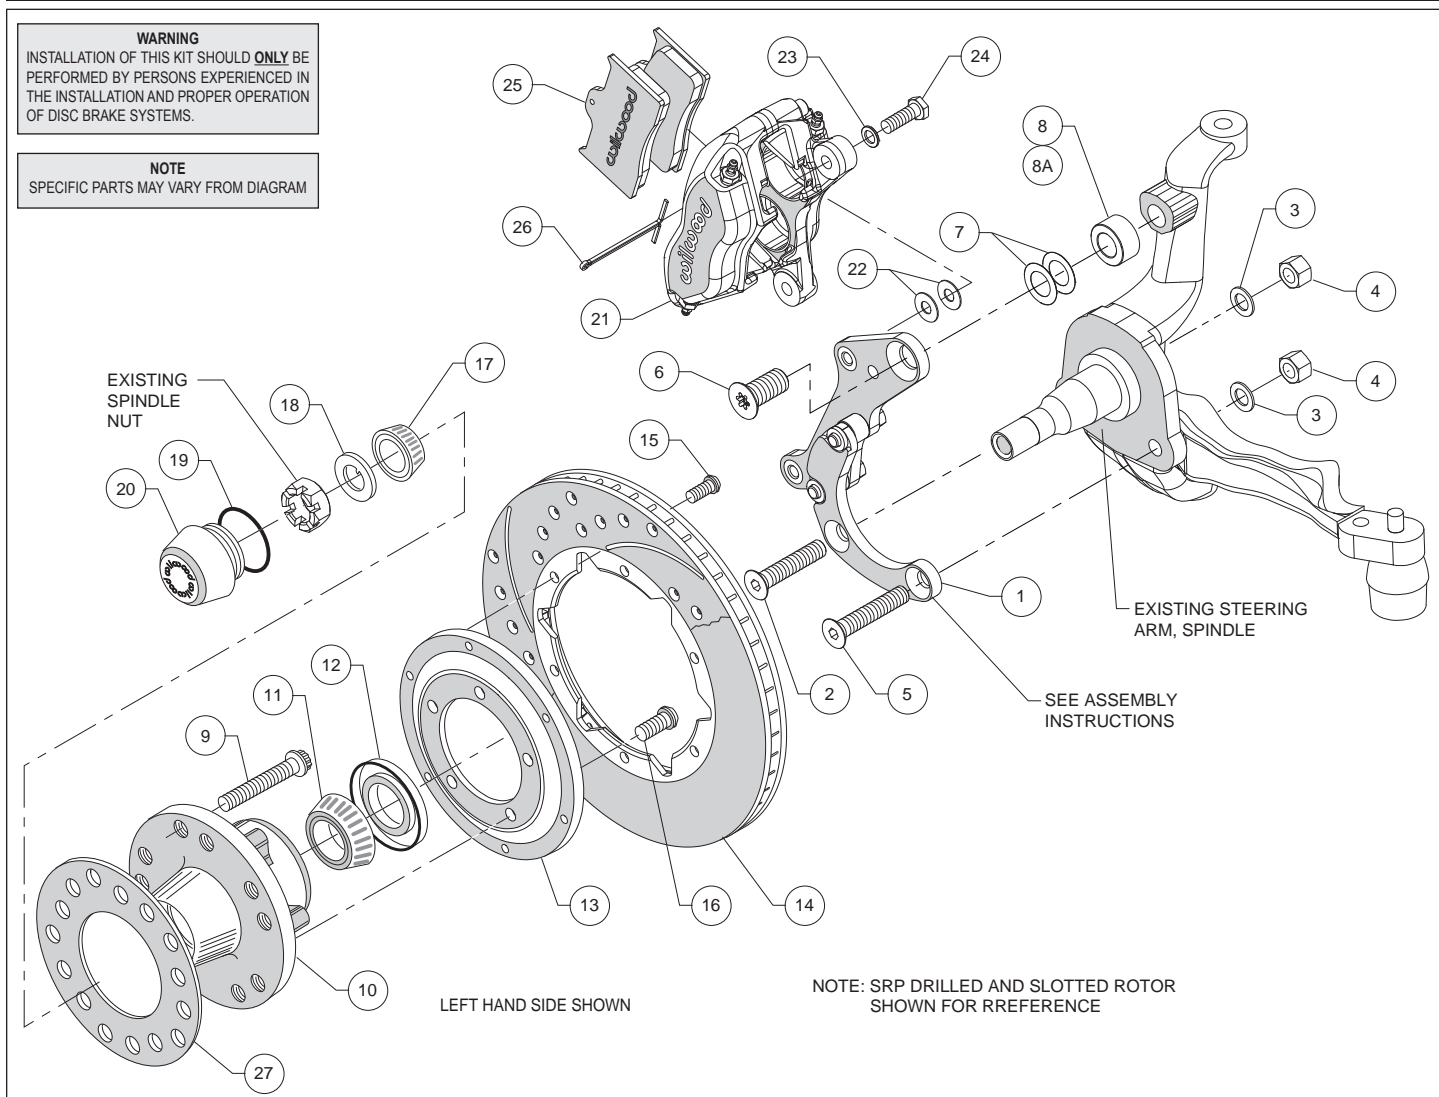
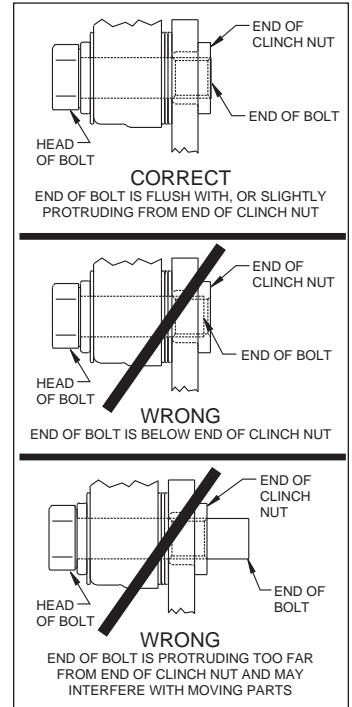

Figure 1. Typical Installation Configuration
Figure 3. Clinch Nut Engagement Diagram
Assembly Instructions (numbers in parenthesis refer to the parts list and Figure 1 on the preceding pages): **CAUTION:** All mounting bolts must fully engage clinch nuts. Be sure to check that all bolts are either flush or protruding through flanged side of clinch nut after shimming, Figure 3.
- The caliper mounting bracket (1) has been assembled at the factory for alignment purposes. Loosen the two bolts that secure the brackets together so that the bolts are hand tight only, this will enable the bracket assembly to be adjusted to accommodate various spindle tolerances during assembly. Align bracket with the two lower holes on the spindle face and attach using bolts (2 and 5), washers (3), and secure using nuts (4), as shown in Figure 1 and Photo 1. Install bolt (6) through top of bracket while placing spacer (8, Impala drum spindle only, or 8A for Impala and Corvette disc spindles) and shims (7) between bracket and spindle, Figure 1. Initially place two .010" thick shims (7) on the top bolt between the bracket and upright, Figure 1. Temporarily tighten the mounting bolts. Ensure that the flanged heads of the clinch nuts in the bracket are facing outboard, Photo 1. **NOTE:** The bracket must fit squarely against the mounting points on the spindle and be parallel with the mounting face. If not, add or subtract shims (7) on the top bolt between the bracket and spacer. Inspect for interference from casting irregularities, machining ridges, burrs, etc. Remove lower bolts one at a time, apply red *Loctite*® 271 to the threads, and torque nuts to 77 ft-lb. Remove the upper bolt (6), apply red *Loctite*® 271 to threads, and torque to 140 ft-lb. Remove one at a time the bolts that secure the bracket assembly to each other, apply red *Loctite*® 271 to the threads and torque to 40 ft-lb.
- Pack the large inner bearing cone (11) with high temperature disc brake bearing grease (available from your local auto parts store) and install into the backside of the hub (10), Photo 3.
- Install the grease seal (12) by pressing into the backside of the hub (10), flush with the end of the hub, Photo 3.
- Orient the rotor (14) and the rotor adapter (13) as shown in Figure 1 and Photo 4. Attach the rotor to the adapter using bolts (15). Using an alternating sequence, apply red *Loctite*® 271 to the threads, and torque to 25 ft-lb.
- Mount the adapter/rotor assembly (13/14) to the hub (10) using bolts (16), as shown in Figure 1 and Photo 5. Using an alternating sequence, apply red *Loctite*® 271 to the threads, and torque to 55 ft-lb.
- Pack the small outer bearing cone (17) with high temperature disc brake bearing grease and install into hub (10). Slide the hub/rotor assembly onto the spindle. Secure using spindle washer (18) and spindle nut (19), Photo 6. Adjust bearings per OEM specifications. Install saved OEM nut lock (if any) and a new cotter pin (not supplied).
- Screw dust cap (20) into hub (10), Photo 7. Friction created by the o-ring (19) on the dust cap keeps it from unscrewing. **NOTE:** *The O.D. of the existing OEM spindle washer may be larger than the I.D. of the dust cap not allowing it to seat against the hub face. Therefore, use the spindle washer (18) supplied with the kit instead of the OEM washer.*
- NOTE:** *Please reference the caution statement at the beginning of the assembly instructions.* Mount the caliper (21) onto the caliper mounting bracket (1) using bolts (24) and washers (23), as shown in Figure 1. Initially place two .035" thick shims (22) on each bolt between the caliper and the bracket, Photo 8. Temporarily tighten the mounting bolts and view the rotor (14) through the top opening of the caliper. The rotor should be centered in the caliper, Photo 9. If not, adjust by adding or subtracting shims between the bracket and the caliper. Always use the same amount of shims on each of the two mounting bolts. **NOTE:** *The end of each bolt must be flush with or slightly protruding from the head of the clinch nut, as shown in Figure 3.* If necessary place spare shims between washer (23) and caliper mounting ear to achieve the proper clinch nut engagement. Once the caliper alignment and clinch nut engagement are correct, remove the bolts one at a time, apply red *Loctite*® 271 to bolt threads, and torque to 40 ft-lb.
- Install the disc brake pads (25) into the caliper, with the friction material facing the rotor (14), and secure in place using cotter pin (26), Photo 10.